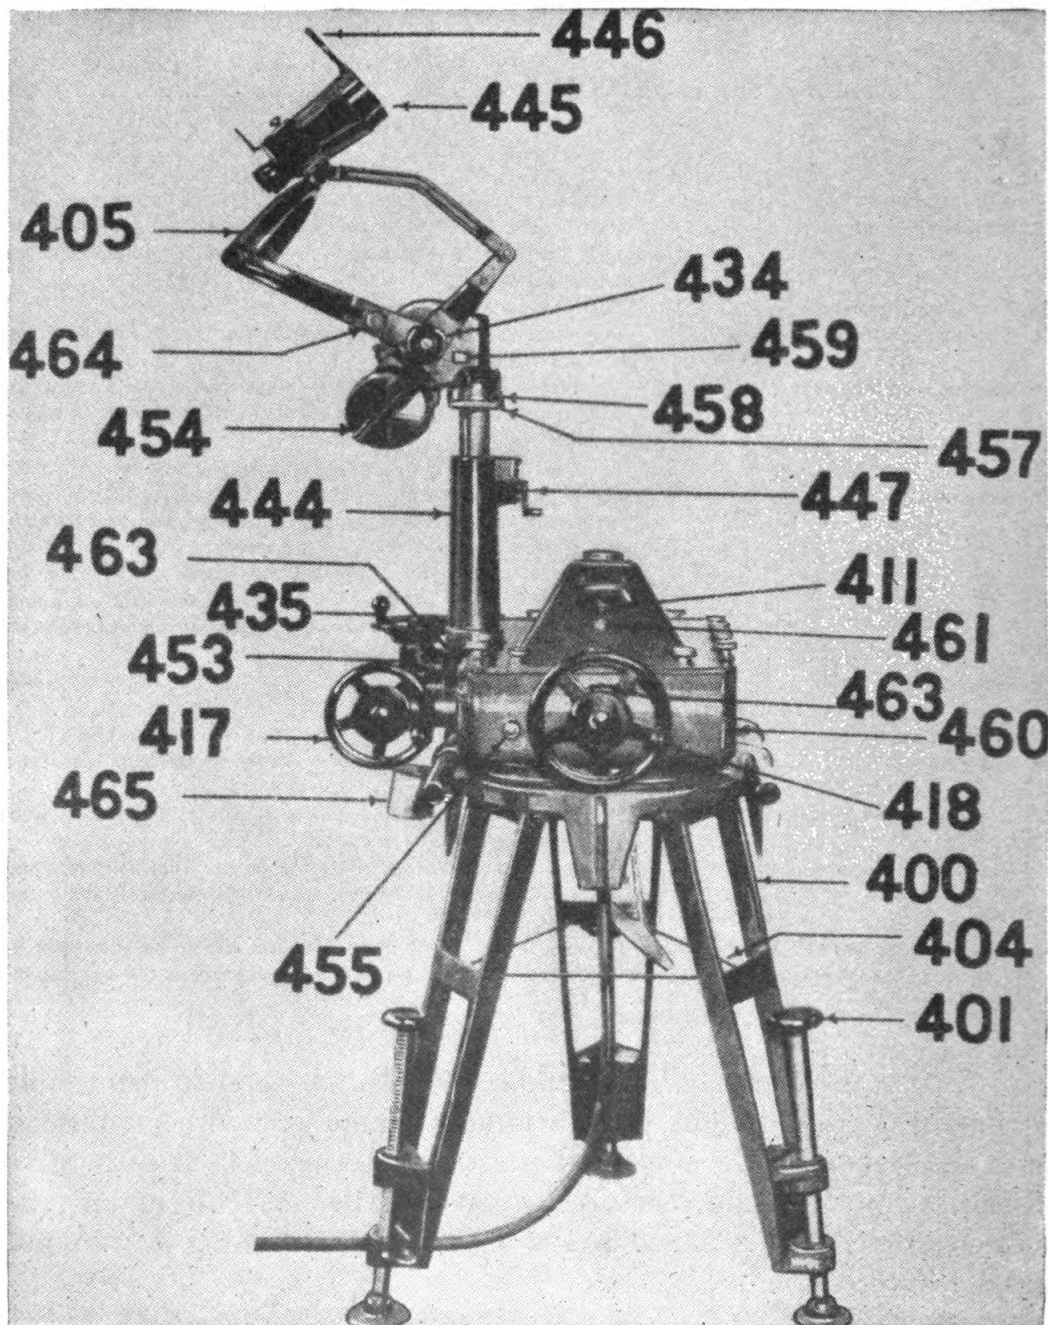

FIGURE 94.—General Electric M1940 control station (right side view).
Q. Name and give the functions of the various parts of the General Electric control station M1940. A. See figures 94 and 95.
401. Leveling jack.....	See reference to figure 94.
417. Observer's elevation handwheel..	See reference to figure 94.
418. Elevation zero reader's hand-wheel.	See reference to figure 94.
434. Binocular linkage clamp.....	See reference to figure 94.
435. Observer's azimuth handwheel..	See reference to figure 94.
446. Open sight.....	See reference to figure 94.
453. Binocular column lock clamp.....	See reference to figure 94.
454. Binocular positioning handles...	See reference to figure 94.
463. Level.....	See reference to figure 94.